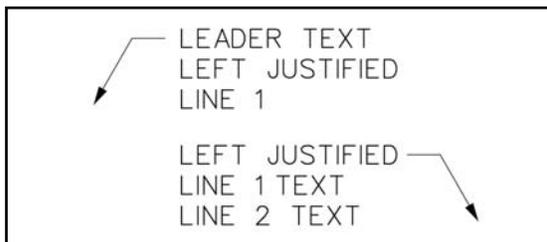

Figure 30a – Leader Line Placement (Left Justified)
- Leader lines can originate from the left or right side of notes and contain a short horizontal bar leading out from the text. (See Figure 30a)